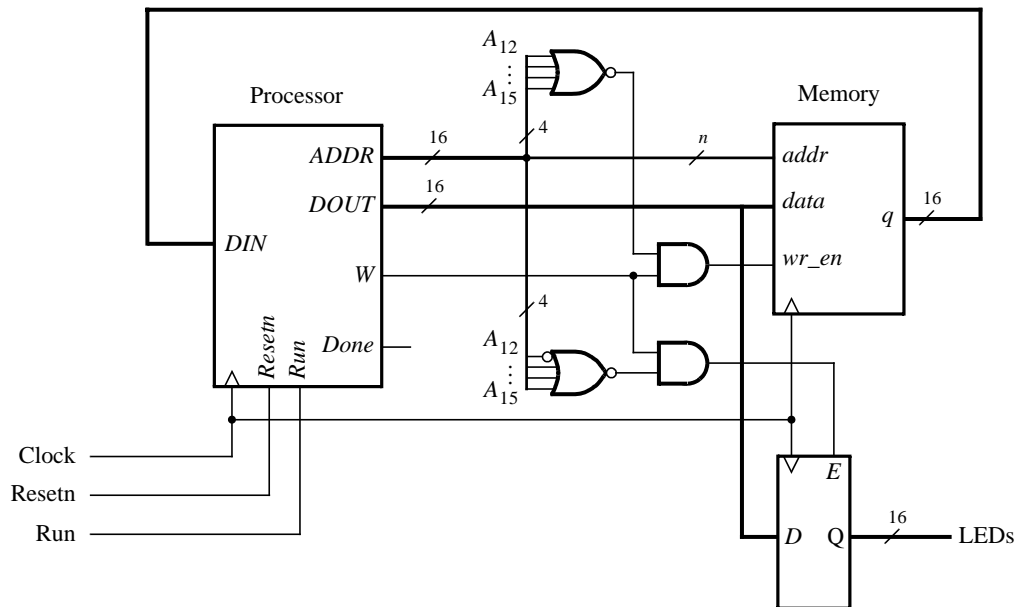

Figure 8. Connecting the enhanced processor to a memory and output register.
loaded into the memory on an active clock edge. This type of memory unit is usually called a *synchronous random access memory* (*synchronous RAM*). Figure 8 also includes a 16-bit register that can be used to store data from the processor; this register might be connected to a set of LEDs to allow display of data on the DE2 board. To allow the processor to select either the memory unit or register when performing a write operation, the circuit includes some logic gates that perform *address decoding*: if the upper address lines are $A_{15}A_{14}A_{13}A_{12} = 0000$, then the memory module will be written at the address given on the lower address lines. Figure 8 shows n lower address lines connected to the memory; for this exercise a memory with 128 words is probably sufficient, which implies that $n = 7$ and the memory address port is driven by $A_6 \dots A_0$. For addresses in which $A_{15}A_{14}A_{13}A_{12} = 0001$, the data written by the processor is loaded into the register whose outputs are called *LEDs* in Figure 8.
2. Write Verilog code for the processor and test your circuit by using functional simulation: apply instructions to the *DIN* port and observe the internal processor signals as the instructions are executed. Pay careful attention to the timing of signals between your processor and external memory; account for the fact that the memory has registered input ports, as we discussed for Figure 8.
3. Create another Quartus II project that instantiates the processor, memory module, and register shown in Figure 8. Use the Quartus II MegaWizard Plug-In Manager tool to create the RAM: 1-PORT memory module. Follow the instructions provided by the wizard to create a memory that has one 16-bit wide read/write data port and is 128 words deep. Use a MIF file to store instructions in the memory that are to be executed by your processor.
Connect the *LEDs* register in Figure 8 to *LEDR₁₅₋₀* so that you can observe the output produced by the processor.
1. Create a Quartus II project for your circuit and write the Verilog code that includes the circuit from Figure 8 in addition to your *seg7_scroll* module.